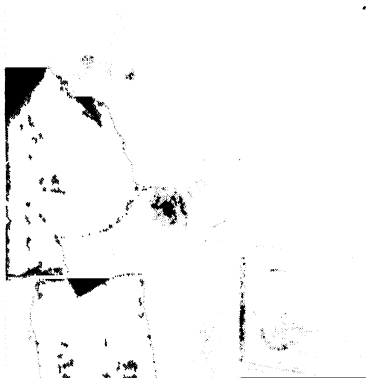

FIG. 26-36 Storing hoods
*To conserve space* and help the hoods retain their shape, two hoods may be stored together by inserting the *line side* of each hood within the other, as pictured in Fig. 26-36.